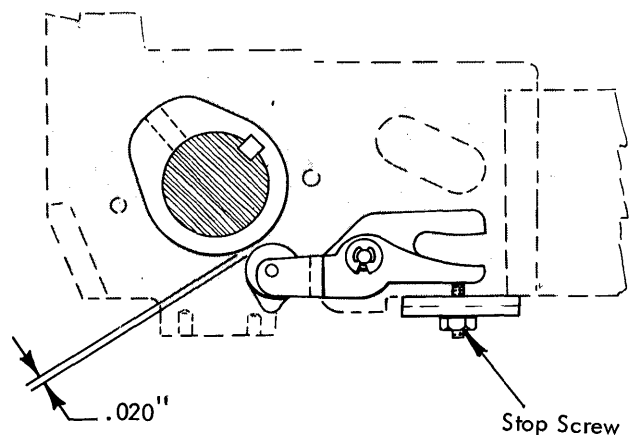

FIGURE 142.2 Print Cam Follower Stop Screw
7. Print Cam Follower Stop Screw - Adjust the cam follower stop screw so that the print cam follower roller clears the print cam by .020" when the machine is at rest (Fig. 142.2). This clearance ensures that the rocker will restore fully on every cycle. On dual velocity machines, this clearance allows the roller to shift from one lobe to the other without rubbing on the cam. Use the following procedure to obtain this adjustment: